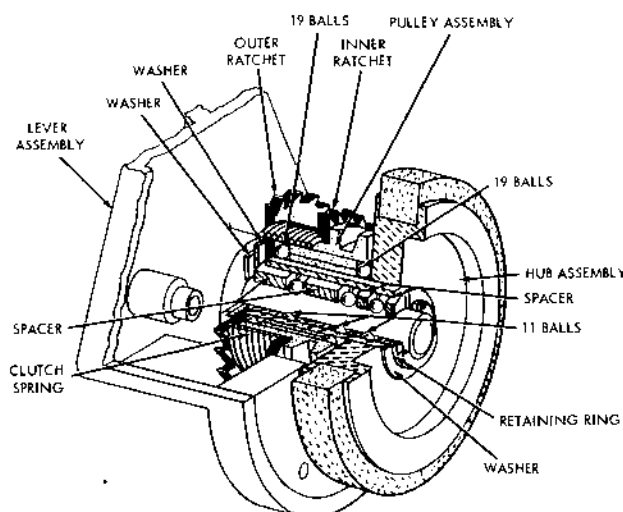

Figure 11. Cutaway View of Take-up Clutch Lever
If complete disassembly is necessary, clean all metal parts with Chlorothene and plastic parts with methyl alcohol, and reassemble as follows (see Figures 11 and 23): Place hub assembly (4) on a clean piece of paper with the tube end up. Apply a small quantity of FS-1290 grease around base of tube. Distribute 19 steel balls (14) around base close to tube. Slide pulley assembly (12) over end of tube with pulley groove toward hub assembly (4). Next, place a small quantity of FS-1290 grease in the recess in the top end of pulley assembly (12) and distribute 19 steel balls.